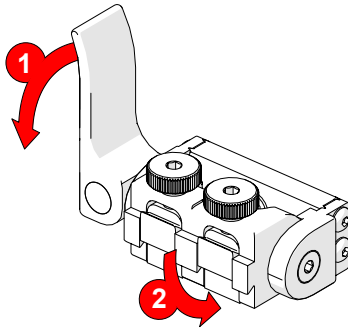

Fig. 33 - Rotate pivot 90° down
1. Release the side-mounted lever and rotate the pivot down 90° (Fig. 33).